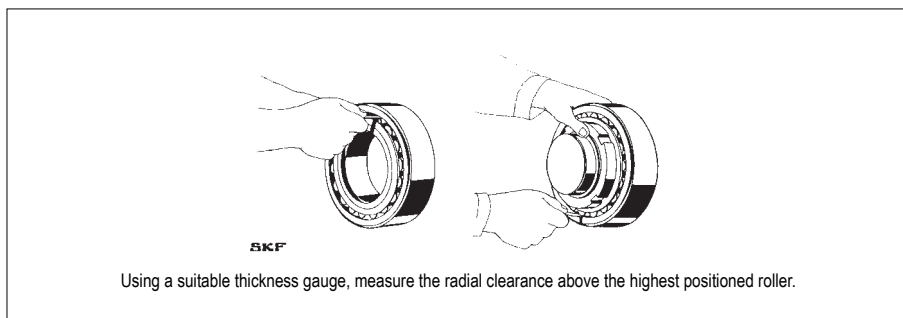
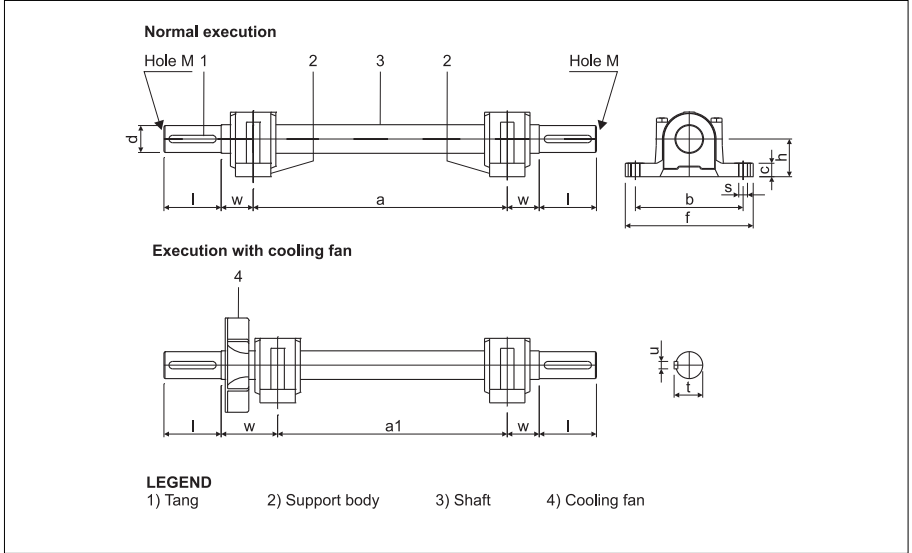

FIG. 23 (Verification of the correct assembly)
FIG. 24 (Assembling indirect drive fan with detached supports)
5.6.2- Assembling indirect drive fan with detached supports (SNL 515 - 516 ...) (FIG. 23/ and FIG. 24/)
- 8) Remove the two upper shells of the supports and fasten the bearings to the electric motor shaft pulling the ring nut. To verify the correct assembly, with suitable thickness meters (e.g. SKF) (FIG. 23), check that the residual clearance complies with the tolerance as per ;